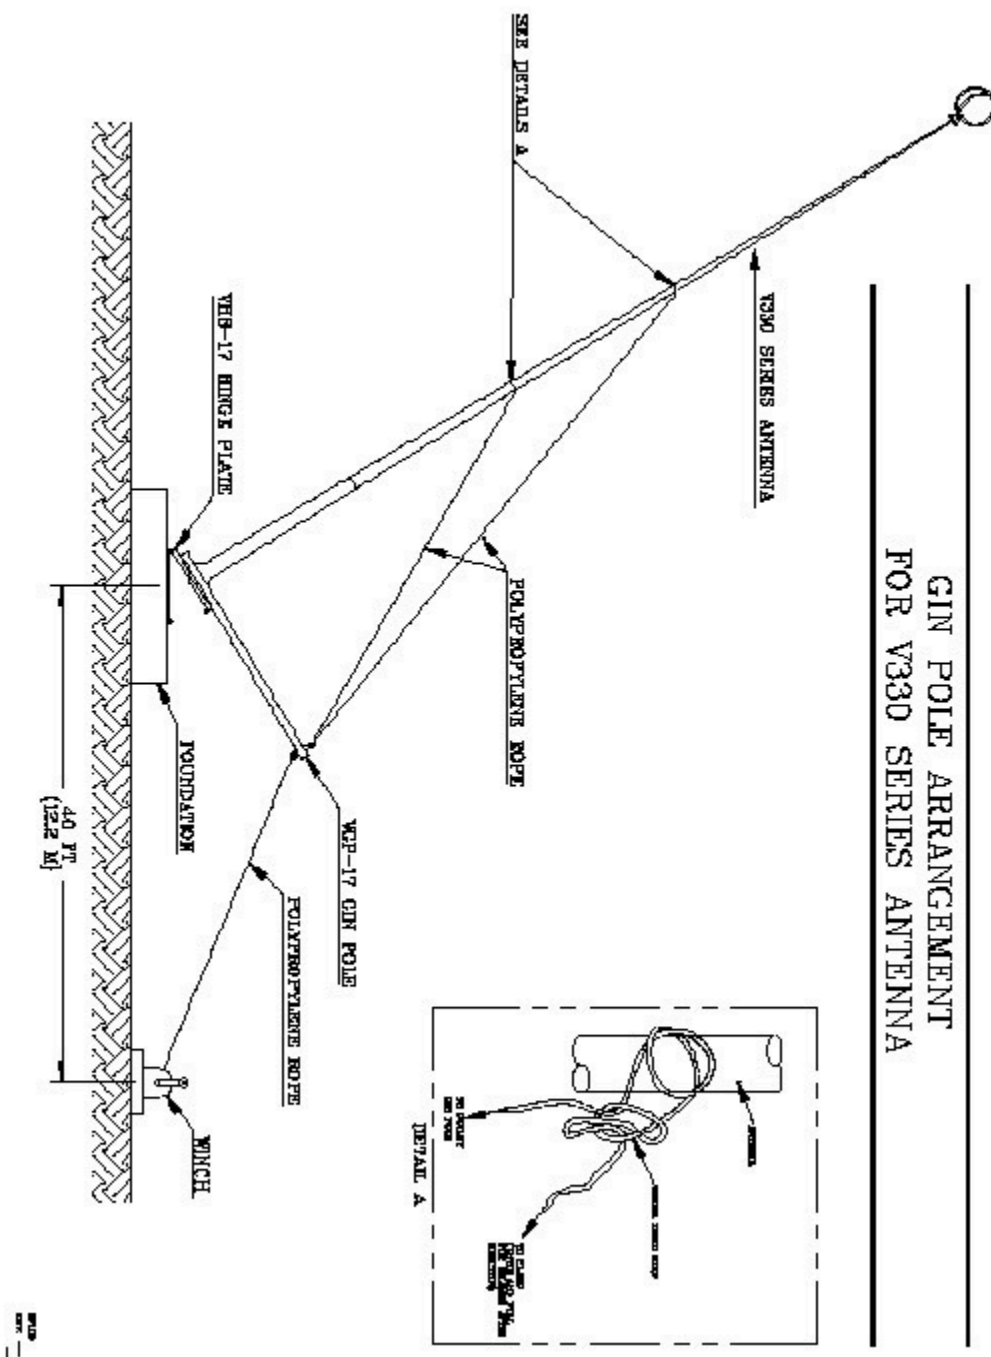

Figure 4.1 - Gin Pole Arrangement for V330 Series Antennas
The following steps should be followed to assemble the V33065 or the V33065FT antenna (see Figure 4.1).
- (2) Obtain six saw horses or other supports that will hold the complete antenna horizontally at a convenient working height and place them in the assembly area. The assembly area must be a cleared working space approximately 70 feet long and 10 feet wide.
- (3) Support the base section (item 1, Table 5.1) on two of the saw horses and tie it in place.
- (4) Align mounting holes in the plate with holes of the antenna flange, secure base section to the plate with hardware, fed through from underside.
- (5) Tie a rope (3/4" diameter polypropylene) to the eye of the gin pole, tie another rope of the same type to the eye of the gin pole. Slide gin pole into the pipe attachment and secure.
- (6) Support the second section (item 2, Table 5.1) on the other two saw horses so that the two sections lie in the same straight line.
- (7) Make sure the threads of the male ferrule on the base section are clear of foreign material and free of burrs.
- (8) Assemble the second antenna section onto the base section and tighten to align the arrows at the joint using the strap wrench supplied (item 7, Table 5.1). Secure by the setscrews and sealant provided.
- (9) Assemble the third section (item 3 , Table 5.1) to the second section by repeating steps 6 to 8.
- (10) Assemble the fourth section to the third section by repeating steps 6 to 8.
- (11) The antenna now is ready to raise to its final position.
- (12) Tie one rope (from gin pole eye) to the position on antenna specified on Figure 4.1. A timber hitch knot is recommended to prevent slipping.
- (13) Tie the second rope (from gin pole eye) to the position on antenna specified on Figure 4.1. A timber hitch knot is recommended to prevent slipping.
- (14) Erect antenna by applying a gradual and constant pull on the rope referred to as the "Pulling Force" (a winch or vehicle is recommended).
- (15) Once the antenna is in the vertical position, insert retainer pin back into hinge plate, secure with tension pin. Use bolts (supplied) to secure upper and lower plates of the hinge plate together.
- (16) Electrical connections can now be made.